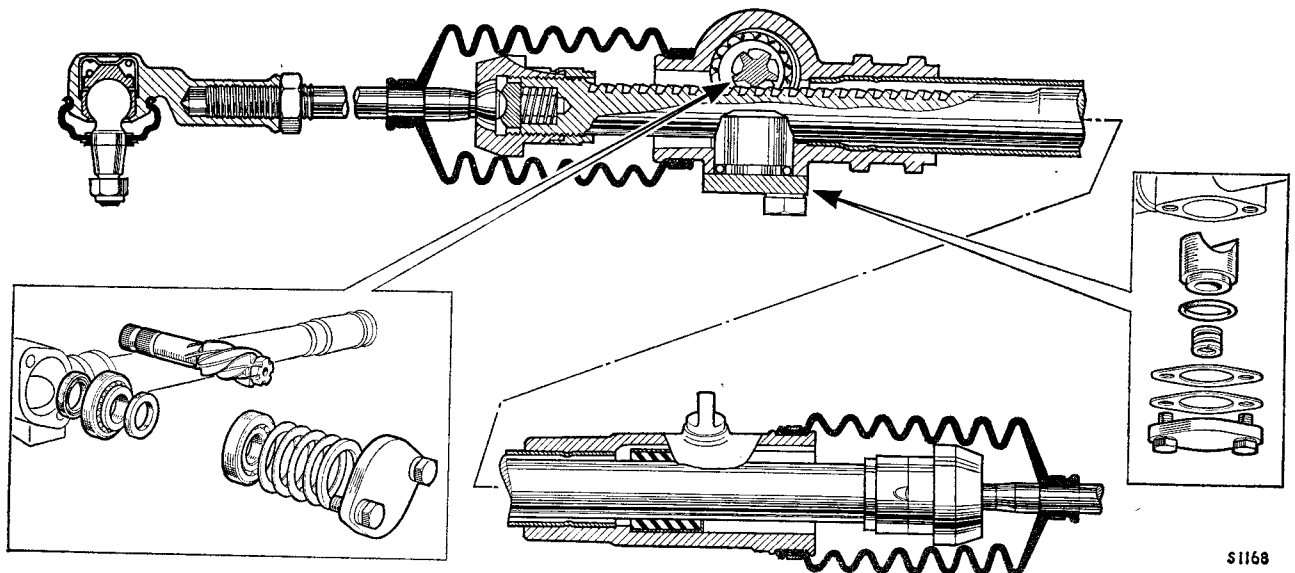

Fig. J.3
- (26) Reverse the dismantling sequence but note: If fitting a new felt bush (early models), soak the bush in E.P. S.A.E. 140 oil.
- (27) The plastic bush may be used as a replacement for the felt bush and is used together with a steel sleeved bush and spacer. Insert the spacer (plain end first) into the rack housing. Fit the plastic bush into the steel sleeve and insert it into the rack housing (plain end first), with the flats on the plastic bush positioned offset to the retaining screw hole in the rack housing. Ensure that the spacer and bush are correctly positioned and drill through the retaining screw hole and the bush with a $\frac{7}{32}$ in. (.27 mm.) drill. Remove all swarf; coat the retaining screw with a jointing compound and refit to secure the bush. Check that the screw does not project into the bore of the plastic bush.
- (28) Pinion adjustment (early models). Refit the cover without the shims, but do not over-tighten the screws. Measure the gap between the cover and the housing. Remove the cover and add shims to the thickness of the measurement minus .002 in. (.05 mm.). Refit the cover with jointing compound.
- (29) Pinion adjustment (Mk. II models). Refit the pinion and bearings as shown in Fig. J.3. Add sufficient shims together with the spacer washer to provide a clearance of approximately .010 in. (.25 mm.) between the rack housing and the cover plate. Fit and lightly tighten the cover plate. Take a feeler gauge measurement of the clearance (A) and reduce the shimming by the measurement taken,